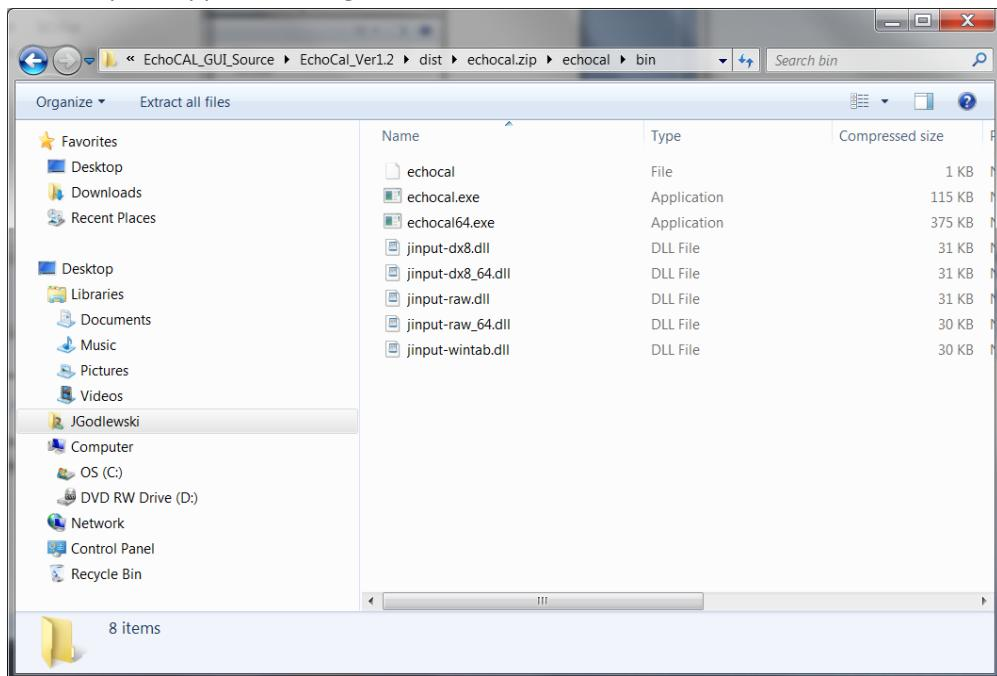

Figure 37: DLLs copied to ZIP distribution folder.
5. Next, navigate to the “EchoCAL-master/EchoCAL_GUI_Source/EchoCAL_Ver1.2/dist/echocal.zip/echocal/bin” folder. Right-click in the folder and select “Paste”. This will add the libraries to the EchoCAL executable folder for use by the application (Figure 37).